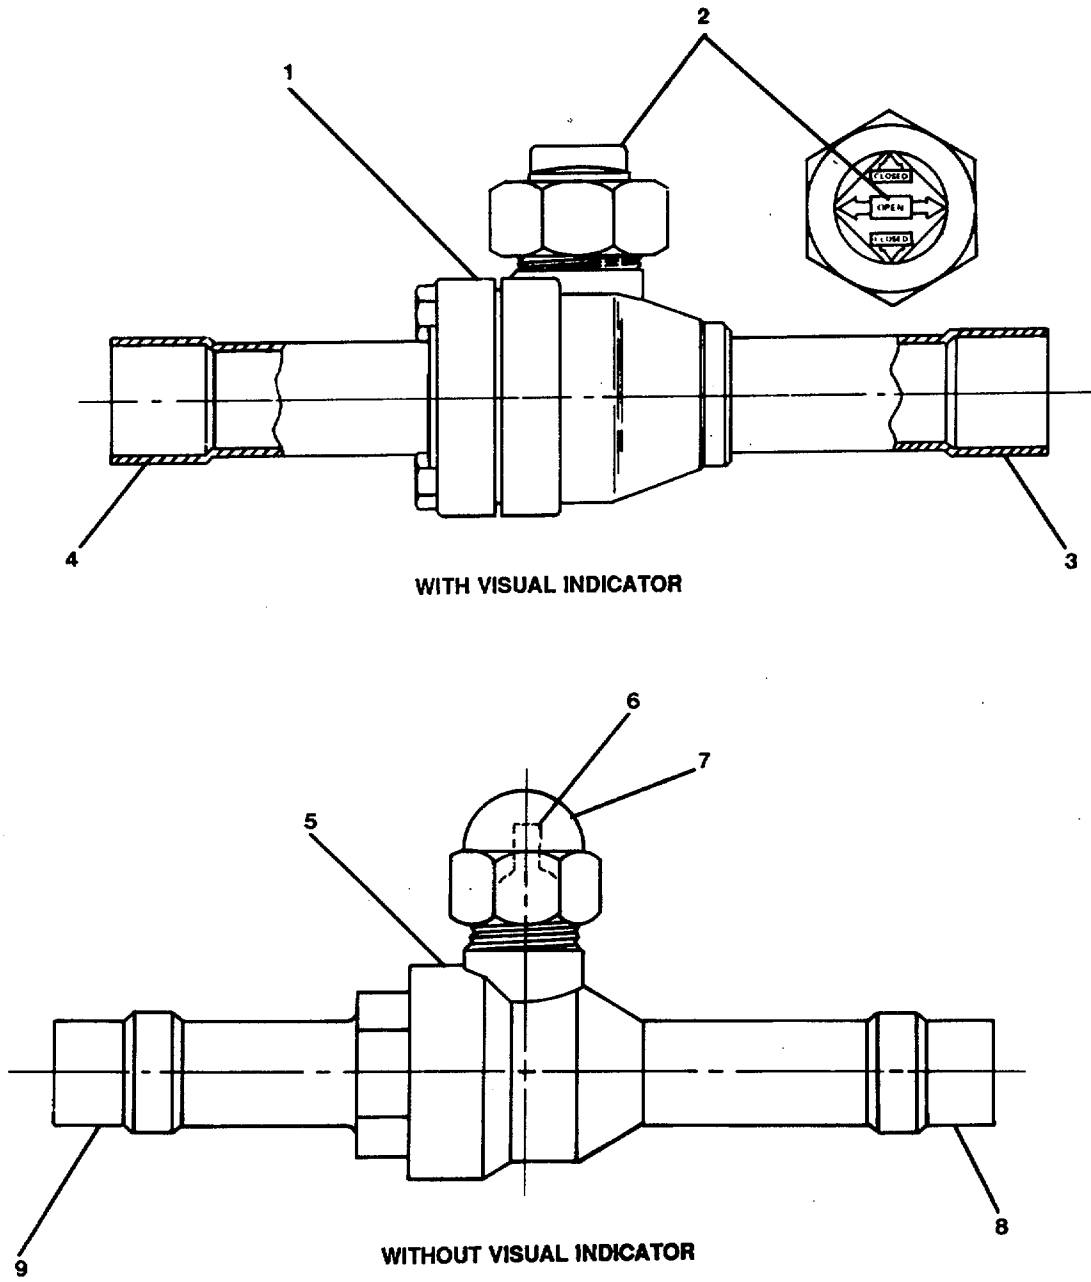

Figure 4-8. Refrigeration Ball Valves.
- e. Replace refrigeration ball valves (1, 5, FIGURE 4-8) as follows: